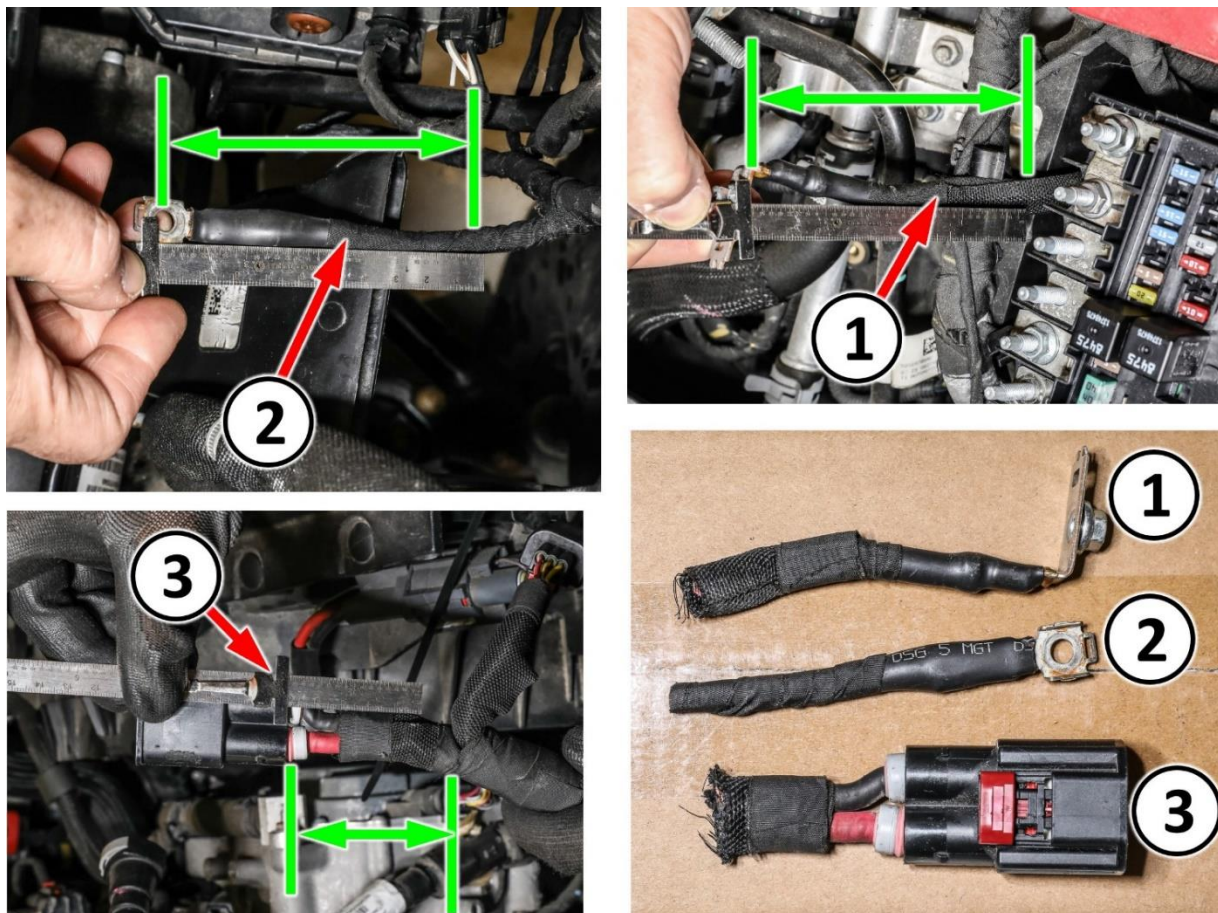

Figure B15 – Remove EHPS Wire Harness Terminals
32. After verification, cut EHPS power supply eyelet D6630J approximately 4 inches behind eyelet 90-degree bend and set aside for return for analysis (Figure B15).
33. After verification, cut ground eyelet G908A approximately 4 inches behind center of eyelet hole and set aside for return for analysis (Figure B15).
34. Cut 2way EHPS connector D2704A approximately 2 inches behind connector body taking special care not to cut through 3way connector D2704B circuits. Set aside for return for analysis (Figure B15).